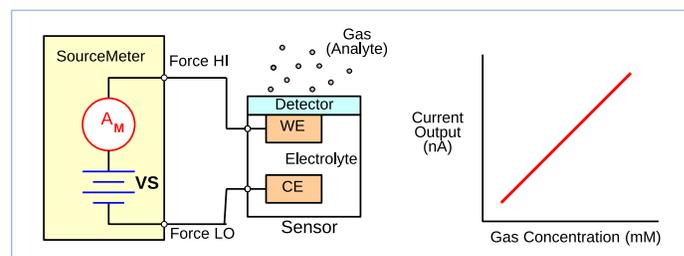

Figure 8. A SourceMeter SMU instrument measuring the current output of a 2-electrode amperometric gas sensor
Figure 8 shows a simple amperometric gas sensor. When a gas comes in contact with the working electrode (WE) a chemical reaction occurs, either oxidation or reduction, depending on the sensor. In an amperometric sensor, current flows between the counter electrode (CE) and the working electrode (WE). The current output, which is related to the gas concentration, is measured by a sensitive ammeter. If necessary, a third electrode, a reference electrode, can be added to the sensor to apply a potential.